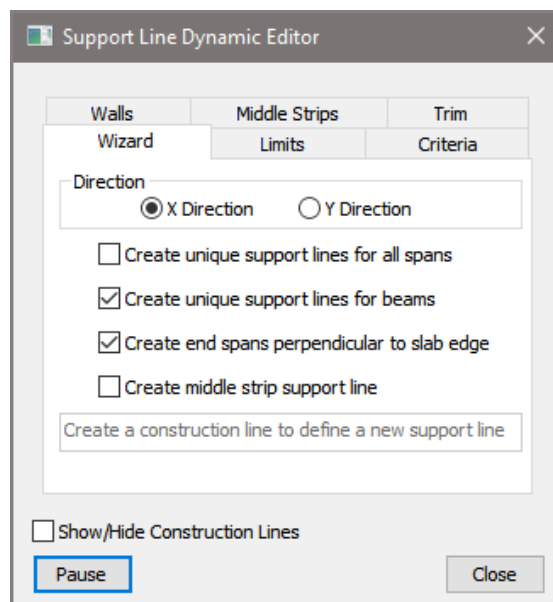

Figure 9-5
- Go to *Floor Design* → *Strip Modeling* and click on the *Dynamic Editor*  icon. This will open the *Dynamic Support Line Editor* dialog window as shown in **FIGURE 9-5**.